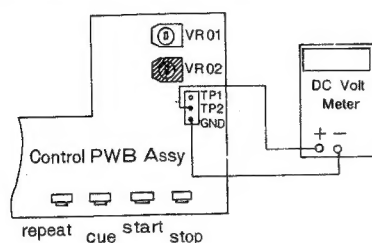

Figure 26
6. Disconnect the D.C. voltmeter and re-connect it between TP2 and GND terminals on Control PWB Assy (Fig. 26).